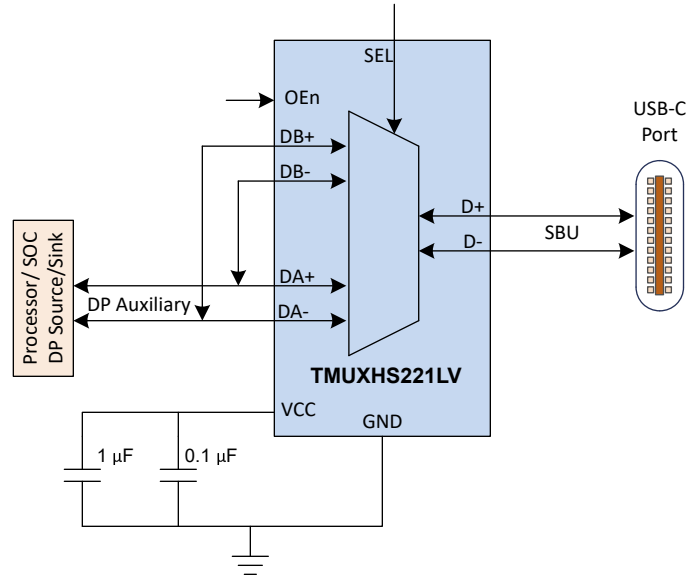

图 8-5. USB Type-C SBU Signals Muxing
图 8-5 shows an application block diagram that implements SBU cross-muxing in a USB Type-C interface for implementing DisplayPort (DP) Alternate mode using the TMUXHS221LV. Note that the device has adequate bandwidth to support fast Auxiliary (AUX) signals. It is also capable of handling asymmetric biasing for DP AUX signals.